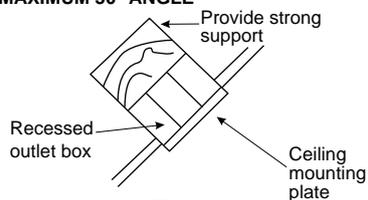

Fig. 3
Step 1. Align the 5 holes from the blade arm plate to the fan motor assembly. Secure it with the 5 blade arm screws provided. (Fig.3)